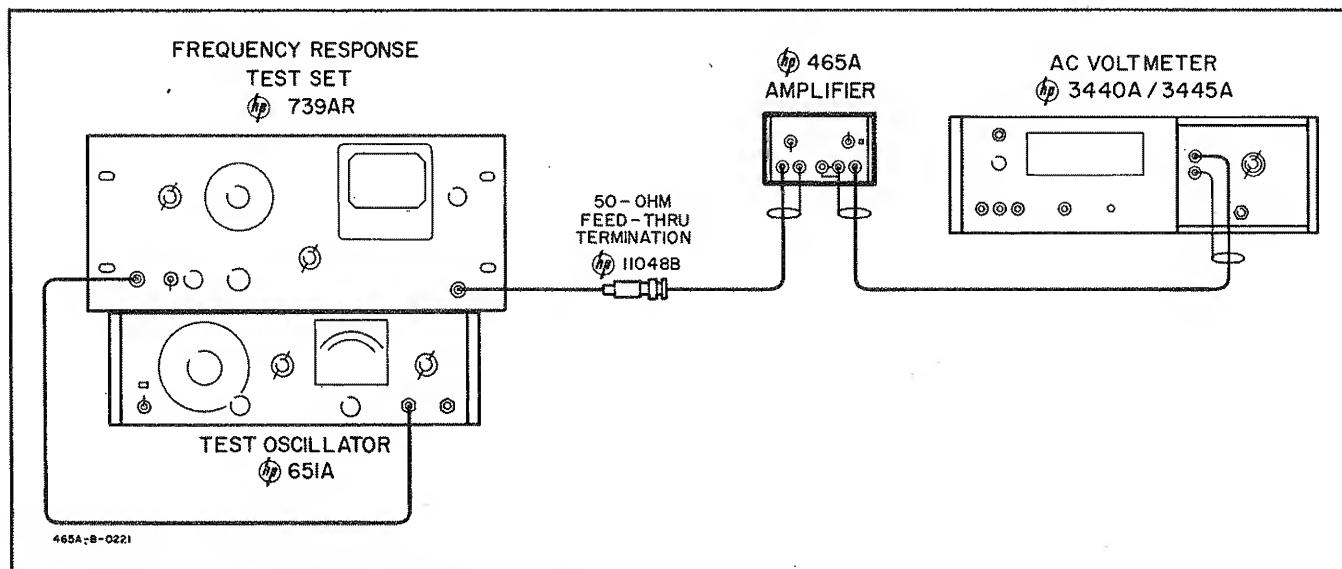

Figure 5-1. Frequency Response Check
- a. Figure 5-1 describes the test arrangement recommended. A Test Oscillator (-hp- Model 651A), a Frequency Response Test Set (-hp- Model 739AR) and an AC Voltmeter (-hp- Model 331A and 3440A/3445A) will be required. -hp- Model 3440A/3445A will be used for frequencies from 50 cps to 100 kc; -hp- Model 331A will be used at all other frequencies.
- b. Connect Model 465A as shown in Figure 5-1. Set GAIN to 20 DB.